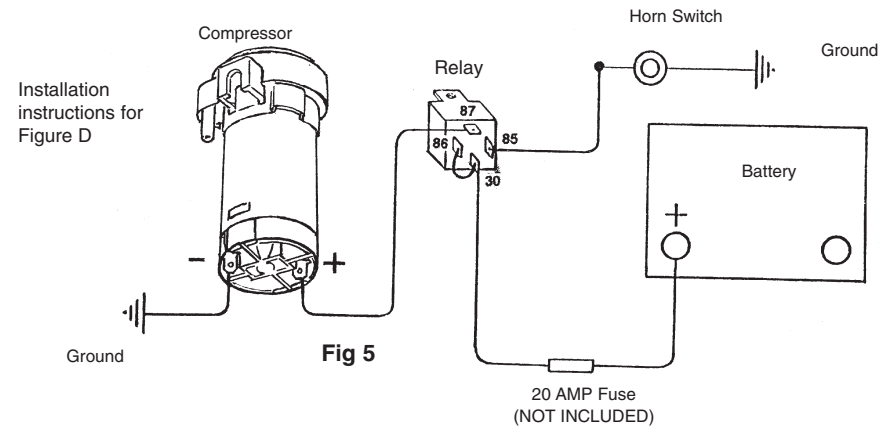

Fig 5
Install the relay in a dry location with the terminals facing downward near the compressor. Refer to Figure 5 for wiring
- F. Connect relay terminals 30/86 to positive (+) 12-volt battery, alternator or accessories. Use 16-gauge or heavier wire. A 20-ampere fuse should be installed as shown in Figure 5.